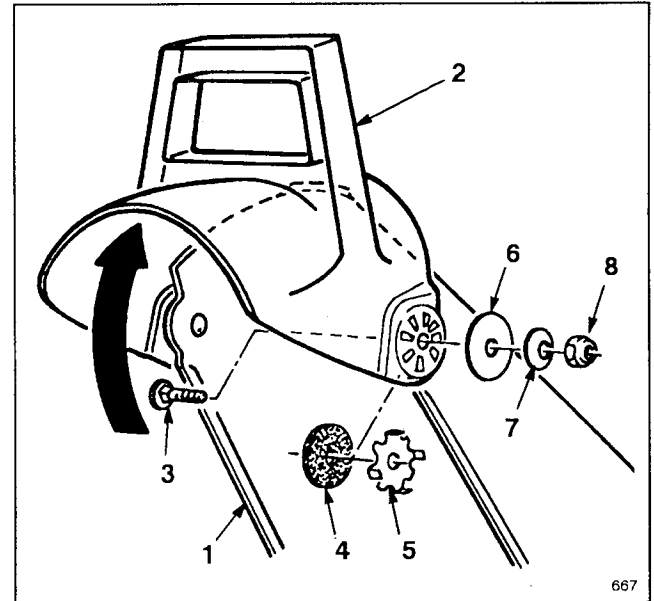

Figure 12
2. Secure left side of deflector to discharge chute using parts as illustrated in Figure 12. Make sure rubber washer and friction plate are positioned between chute and deflector and friction plate tabs fit into holes in deflector. See Figure 12 for proper installation sequence of parts.